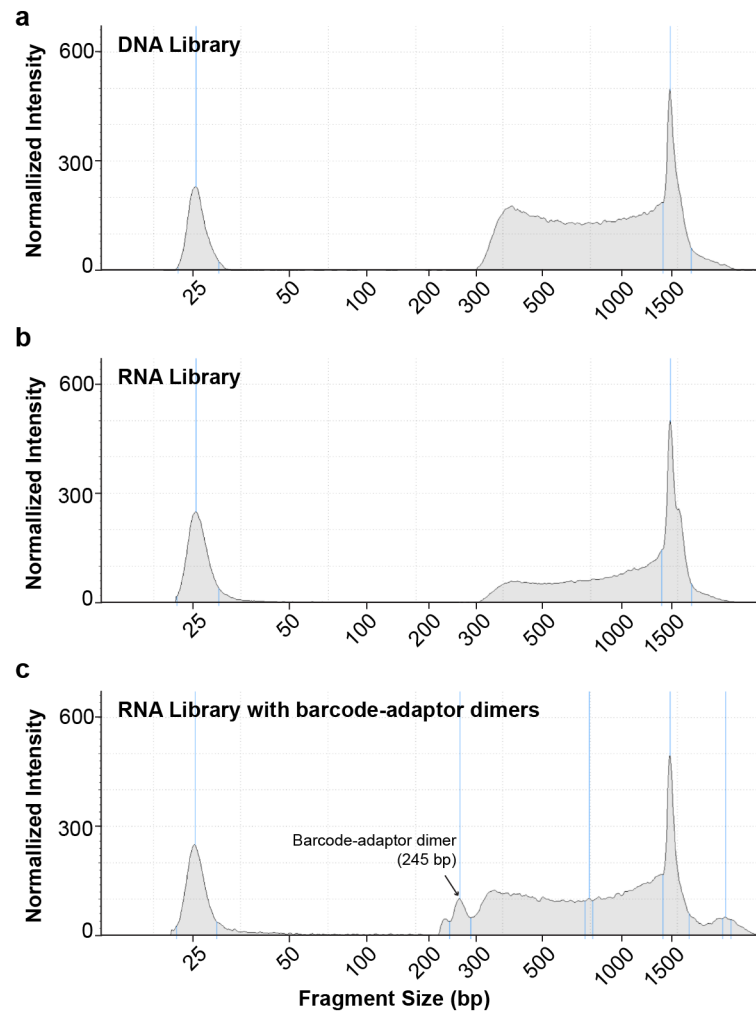

Fig.1 | Representative fragment size analysis results of Paired-Tag libraries.
5. Use Agilent Fragment Analyzer to analysis the fragment distribution of libraries (**Fig. 1**). If there is a clear band at ~245 bp (**Fig. 1c**), repeat the size selection with 0.75X SPRI beads or other size selection method (see **Troubleshooting** for details).